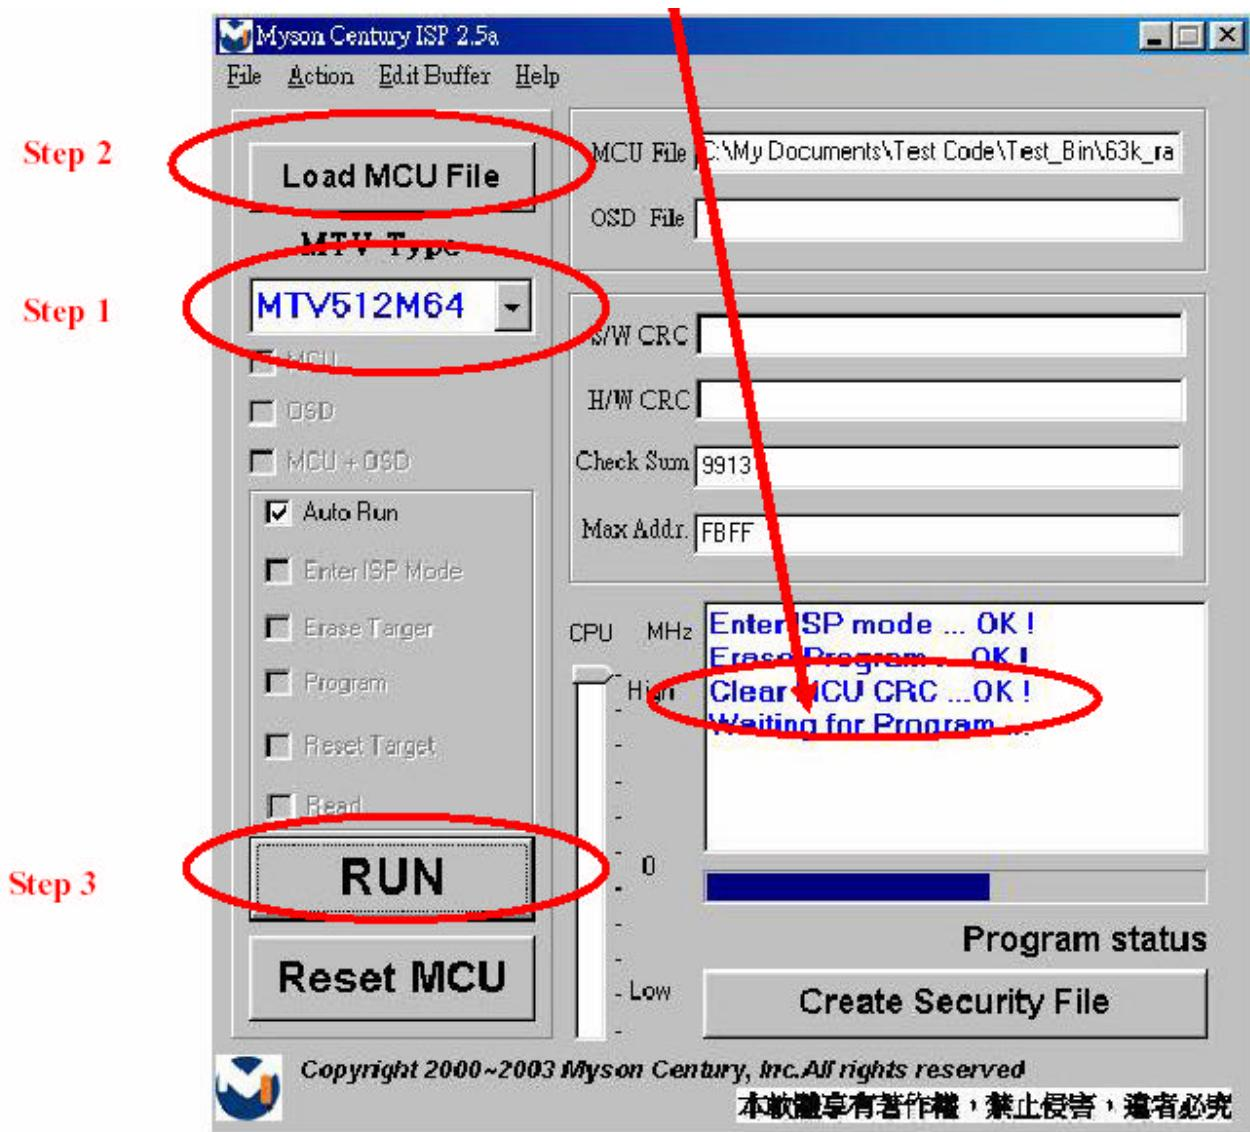

Fig 4.1
4.1 elect MTV type first, load the binary or Intel hex file that you want to program into the MCU, and select "Auto" item, then press "RUN" button, see Fig 4.1.